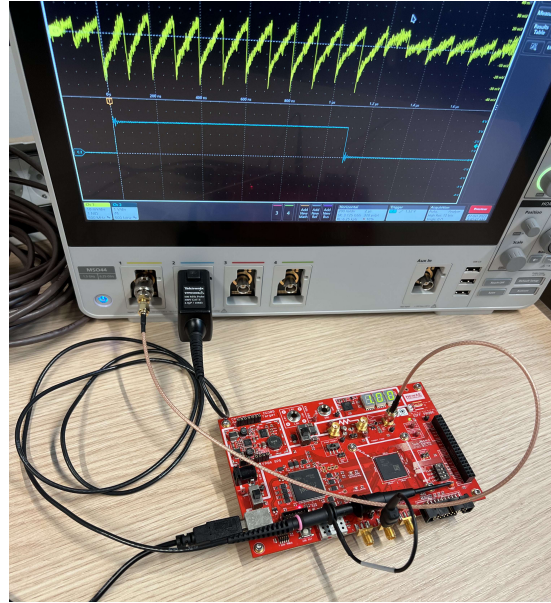

Figure 2: CW305 setup
- `ex1_cw305_capture.ipynb` demonstrates how to capture a trace of the power consumption of the CW305 target board[3] when triggering on analog channel 2 (see Figure 2).